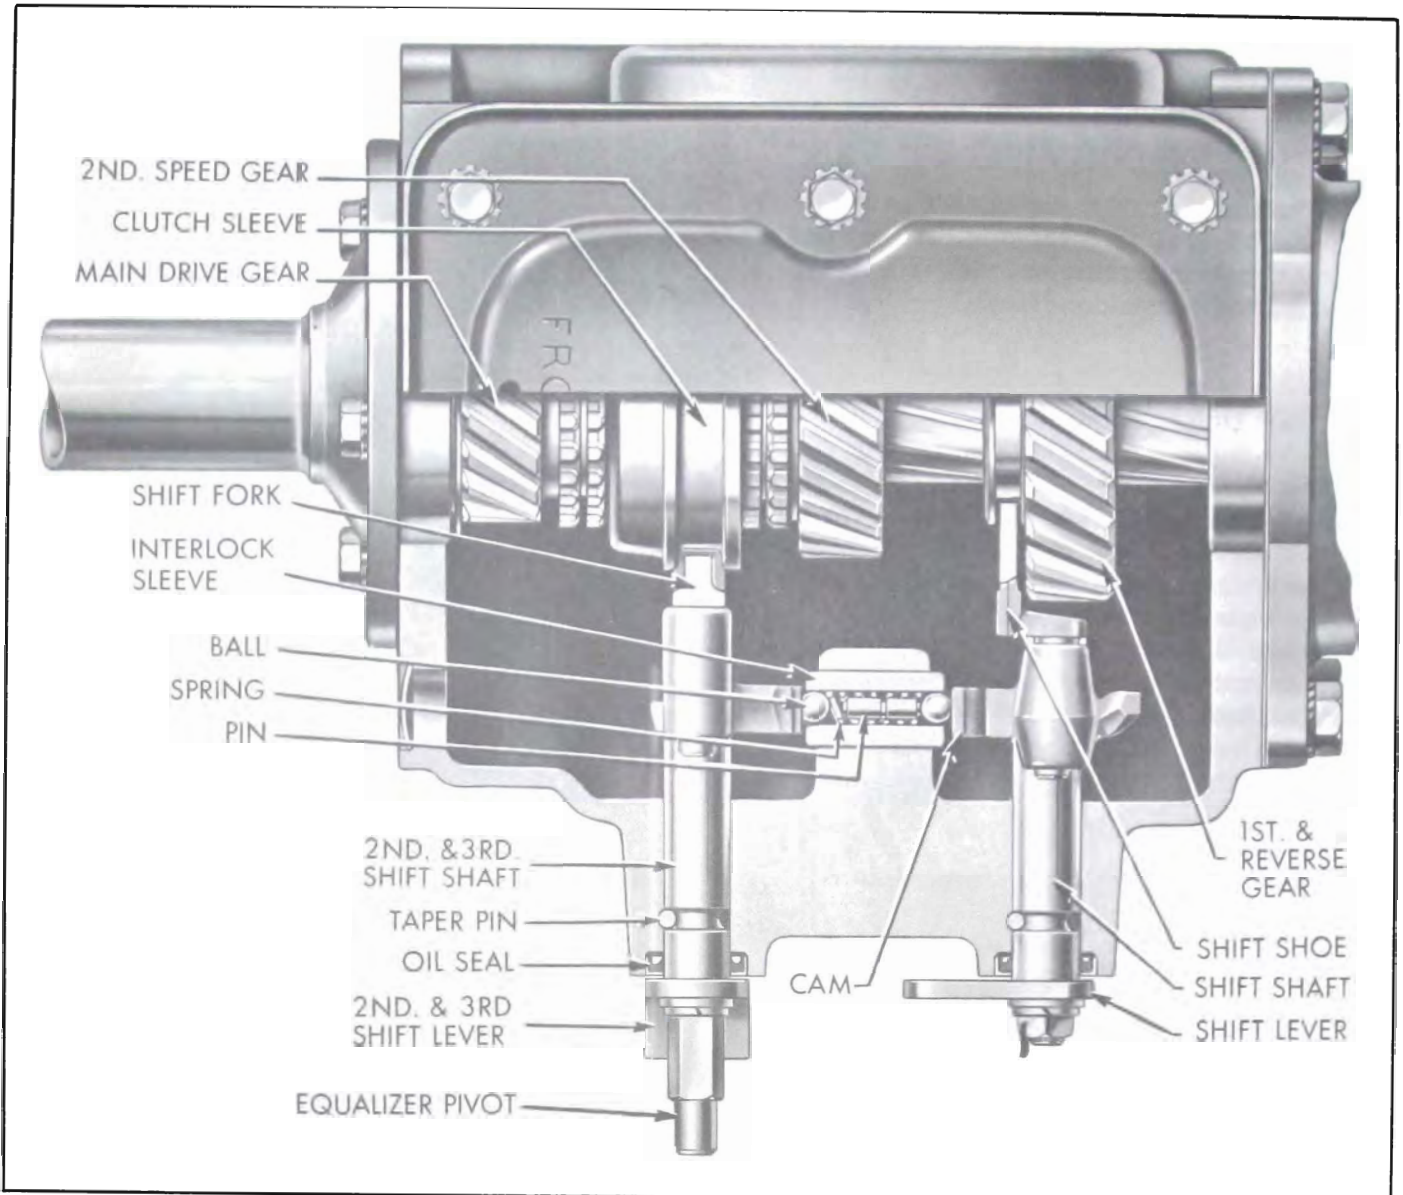

Figure 4-10—Transmission Shift and Interlock Mechanism
An equalizer lever is pivoted between the second-third shift lever nut and a bracket mounted on the body side rail. A shift rod from the transmission control shaft lever actuates the equalizer lever which in turn engages the second-third shift lever. This equalizer allows operation of the transmission in second and third with little or no effect from relative motion between the engine - transmission assembly and the body. See Figure 4-10.
When the second-third shift lever is moved forward by the equalizer lever, a shift shaft with an integral notched cam is rotated to cause a shift fork to move rearward. This moves the clutch sleeve rearward to first synchronize the speed of the second gear and then to engage the projecting teeth on the second gear. When the second-third lever is moved rearward, the notched cam is rotated in the other direction and the clutch sleeve is moved forward to first synchronize the speed of the drive gear and then to engage the projecting teeth on the drive gear. See Figure 4-10.
When the first-reverse lever is moved rearward, a shift shaft with an integral notched cam is rotated to cause a shift shoe to move forward. This moves the first-reverse gear forward to engage its corresponding part on the counter gear. When the first-reverse lever is moved forward, the notched cam is rotated in the other direction and the first-reverse gear is moved rearward to engage the reverse idler gear. See Figure 4-10.
The interlock mechanism consists of an interlock sleeve, pin, spring and two balls. Each shift shaft cam has three grooves into which the interlock spring pushes the balls; these detents make a definite position for each shift. Each cam is lower in the center or neutral position and higher each side of the neutral position. When either cam is shifted out of the neutral position, the interlock sleeve is slid over so that it almost touches the other cam which is in the neutral position. The interlock sleeve therefore prevents this other cam from being shifted out of its neutral position unless the first cam is returned to neutral. See Figure 4-10.
9. Lift manual control lever from 2nd-3rd range straight toward steering wheel into 1st reverse range. Do this several times to align 1st-reverse lower control shaft lever, then tighten 1st-reverse shift rod adjusting clamp. See Figure 4-10.